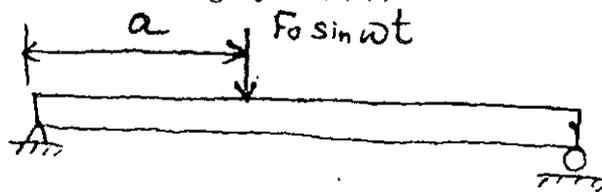

Fig. Q. 14 (a) (i)
14. (a) (i) Determine the steady state vibration of a simply supported beam of length L acted upon by a concentrated forcing function $F_0 \sin \omega t$ as shown below in Fig. Q. 14 (a) (i). (8)